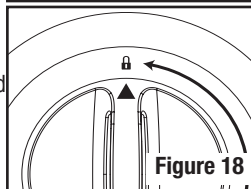

Figure 18
3. **To Replace Bug Basket.** Ensure bottom mesh door of Bug Basket is snapped securely in place, and the Basket is in the closed position. Line up the arrow (▲) on the Bug Basket with the "Unlocked" symbol (🔓) on the top of the Vacuum Head and drop the Bug Basket in the intake area. Turn the Bug Basket handle counter-clockwise (↺) until the arrow (▲) on the Bug Basket aligns with the "Locked" symbol (🔒) on the Vacuum Head (Figure 18). The Bug Basket will twist open (which you cannot see) and be ready to capture mosquitoes as you lock it in place.